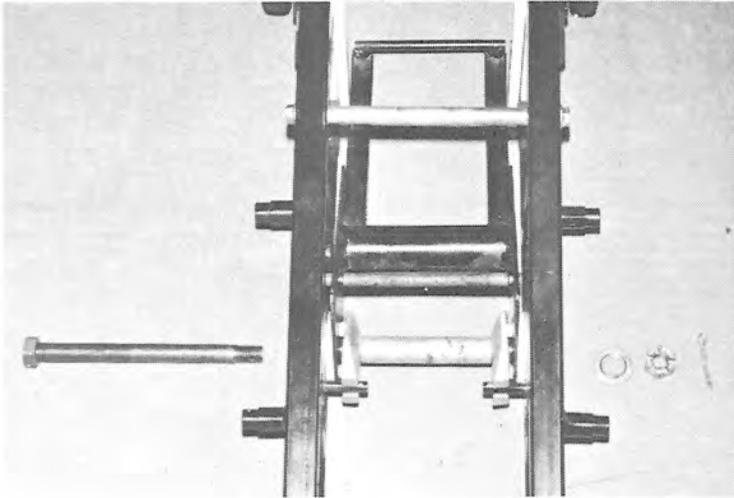

FIG. 5-6
2. Remove cotter pin, castellated nut and cross bolt. Pull shock assembly out of slide assembly. (See Fig. 5-6).